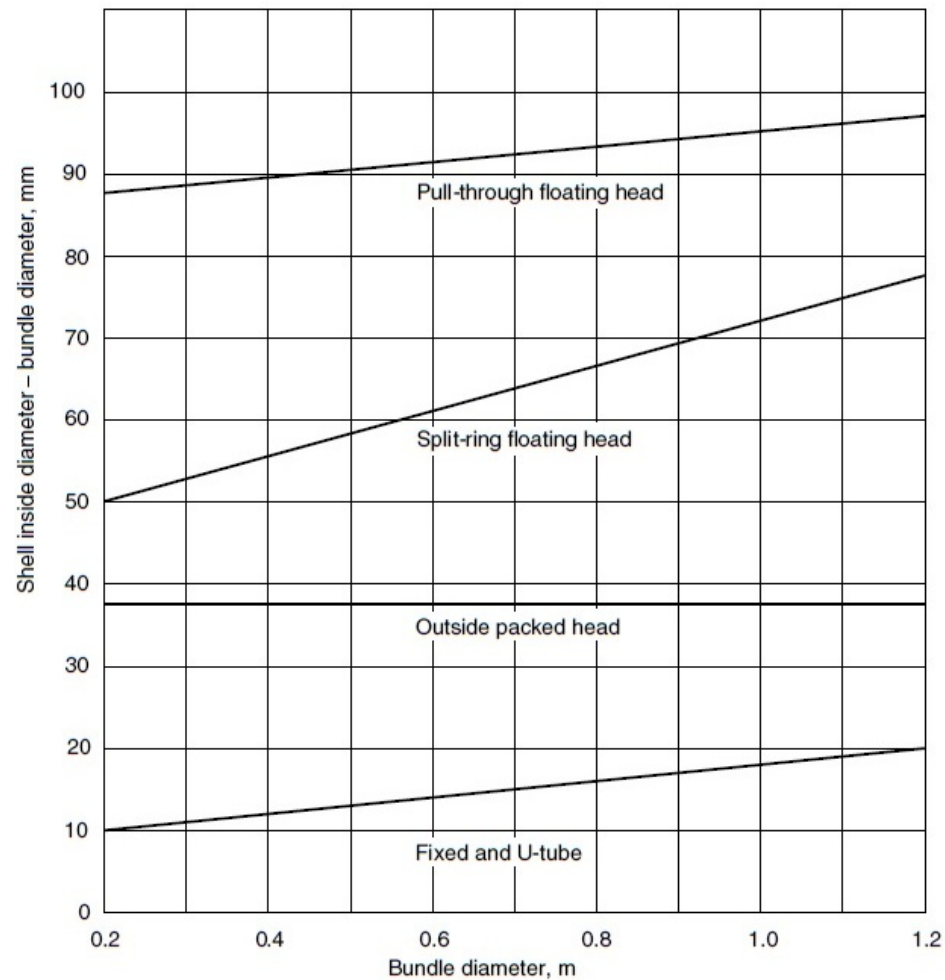

Fig. 6: Shell-bundle clearance
- Use a split-ring floating head type for Fig. 6.
- From Fig. 6, bundle diametrical clearance is 68 mm.